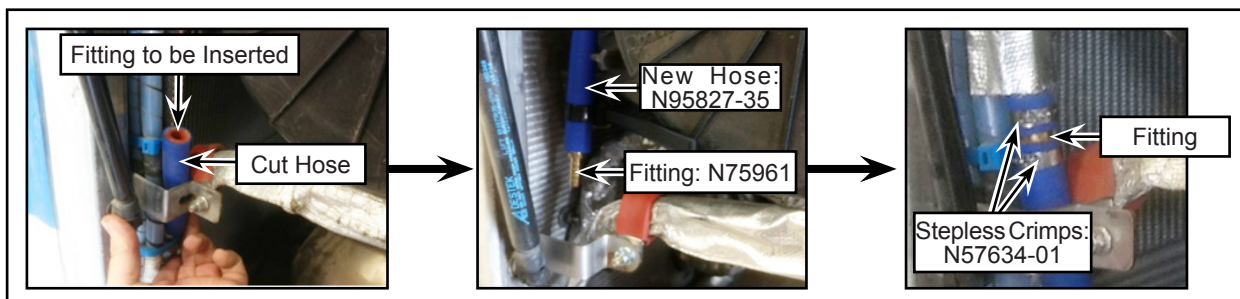

Figure 17 - Preparation of DEF Hose
- 1.28. Insert one end of the fitting N75961 in new hose N95827-35 and other end in the retained cut hose (see Figure 17).
- 1.29. Install stepless crimp N57634-01 as shown (see Figure 17).